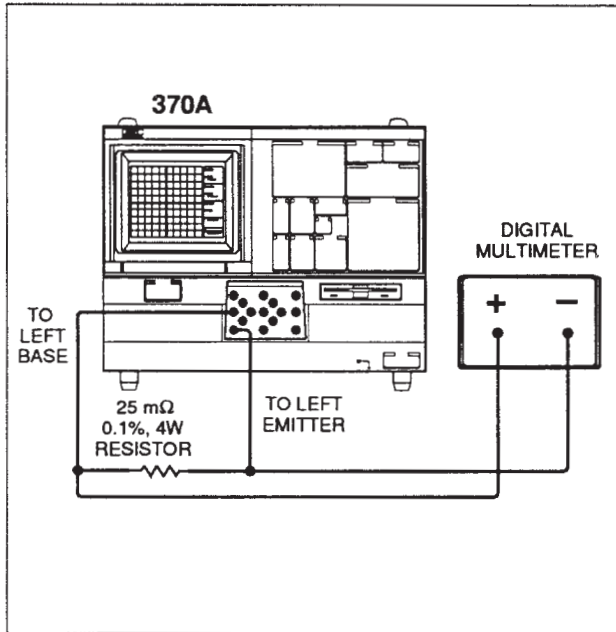

Figure 4-6. Checking for Maximum OFFSET of 200 mA Range.
l. Connect a 0.025  $\Omega$  Resistor to the Left Base jack (B) to the Left Emitter jack (E) and connect the Digital Multimeter to the leads of the Resistor as shown in Figure 4-6.